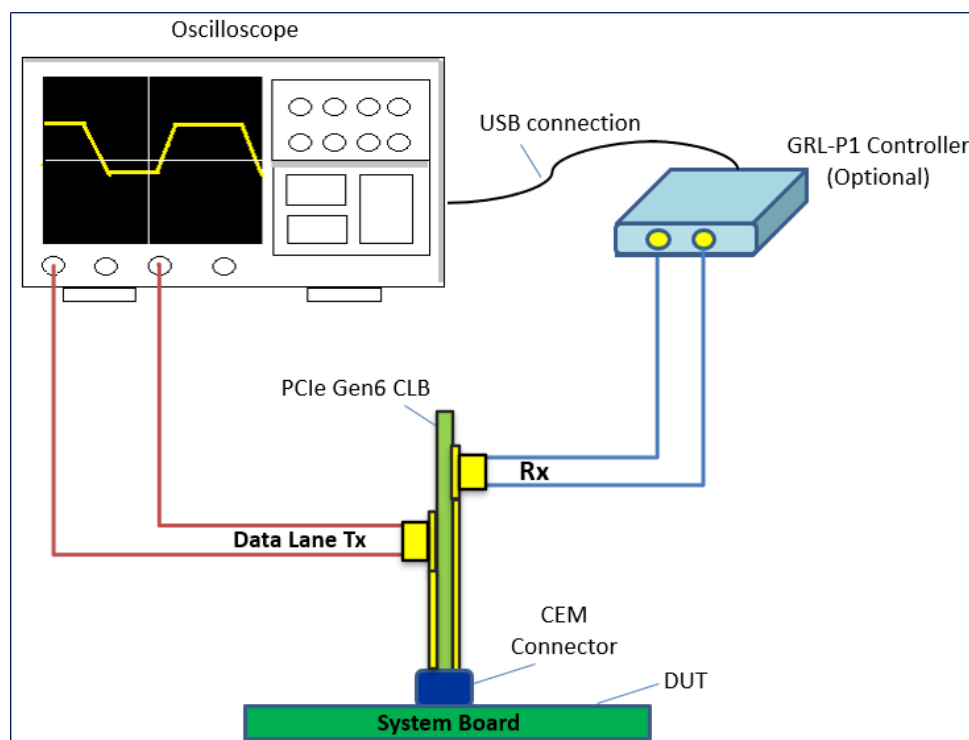

FIGURE 19. CONCEPTUAL PCIe GEN6 SYSTEM BOARD TX TEST SETUP DIAGRAM USING GRL-P1 (WITHOUT RF SWITCH)
1. Using the same connections from Figure 19, connect the Tx+ and Tx- Data Lanes from the CLB to the RF Switch Inputs.